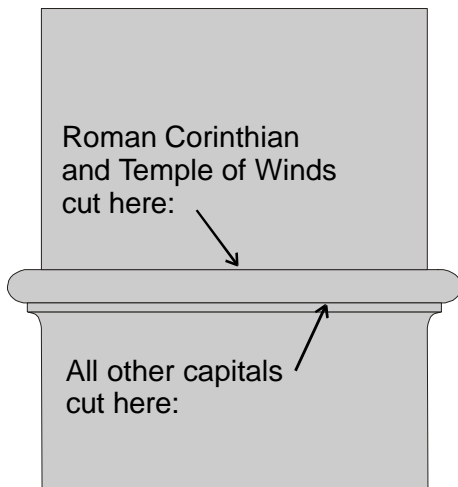

Figure 1
3. Slip one-piece cap and base onto column shaft (see figure 1). The two-piece cap and base are attached after the shaft is installed. **If this column is installed where it could collect water or debris, the top of the column and cap MUST be flashed (covered) to prevent such collection. Use lead, copper, aluminum, galvanized, etc. flashing cut slightly larger than the cap, and fold the edges down over the cap after step 5. It is not permissible at any time to fill the interior of the column shaft with sand, concrete or any other material.**
2. Trim top of column shaft (see Figure 1)